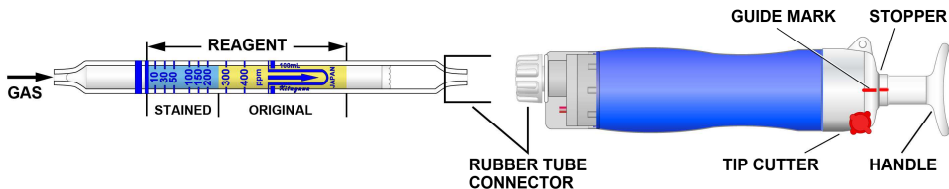

Fig.1
- ② Insert the detector tube into aspirating pump securely as shown in Fig.1. (Arrow mark shall point to the pump).
- ③ Align the guide marks on the shaft and stopper of the aspirating pump.
- ④ Pull the pump handle at full stroke until it locks and wait for 1.5 minutes or until the completion of the sampling is confirmed with the flow indicator of the pump (See descriptions about the flow indicator in the instructions of the pump).